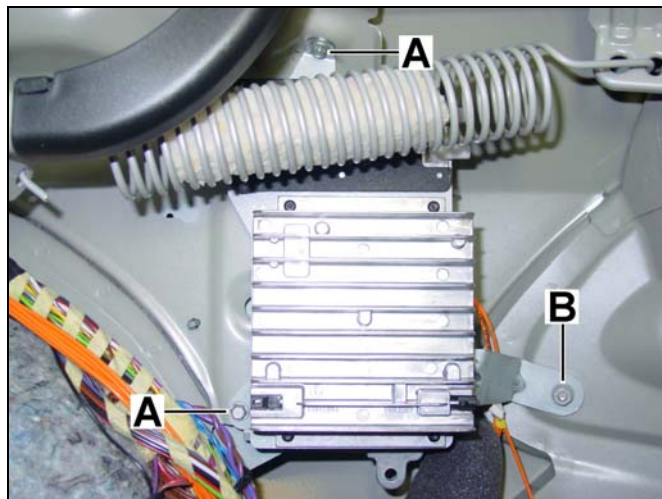

Figure 22
5. Mount the bracket assembly, with the linear compensator facing out, to the upper area of the exposed quarter panel interior with an 8-mm hex head, self-tapping screw at the upper and lower, front arms of the bracket (A, Figure 22), and the existing 10-mm flange nut at the lower, rear arm of the bracket (B, Figure 22).